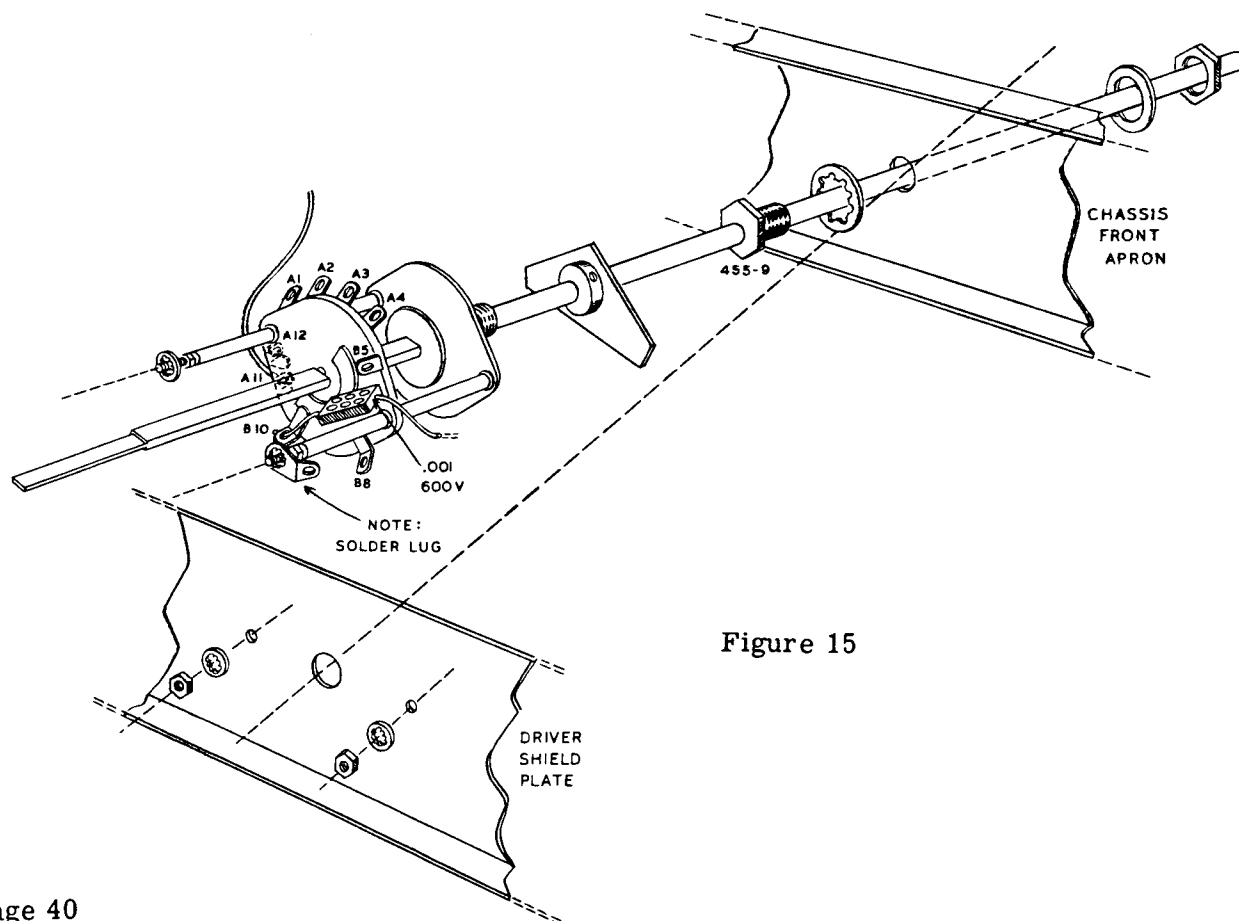

Figure 15
- () Prepare the front section of the main bandswitch for mounting as follows: Rotate the switch shaft all the way clockwise as viewed from the front. Refer to Figure 15 on Page 40 to identify the terminal numbers on the switch. Remove the extra nuts from the switch mounting studs and lay them aside temporarily.
- () Connect a heavy bare wire 2 5/8" long to switch terminal A11 (S). Form as shown and leave the other end free.
- () Cut one lead of a .001 μ fd 600 volt mica capacitor to 5/8" and connect to terminal B10 (S). Leave the other end free. Position the capacitor as shown in Figure 15.
- () Slide the hardware shown in Figure 15 onto the switch shaft and leave it loose.
- () Now insert the switch shaft in the front chassis apron hole far enough that the rear shaft will drop into the hole in the driver shield plate. Carefully engage the rear switch rotors as the shaft is slipped down through the sections. The wafer of the front switch section should be oriented as in Figure 15.